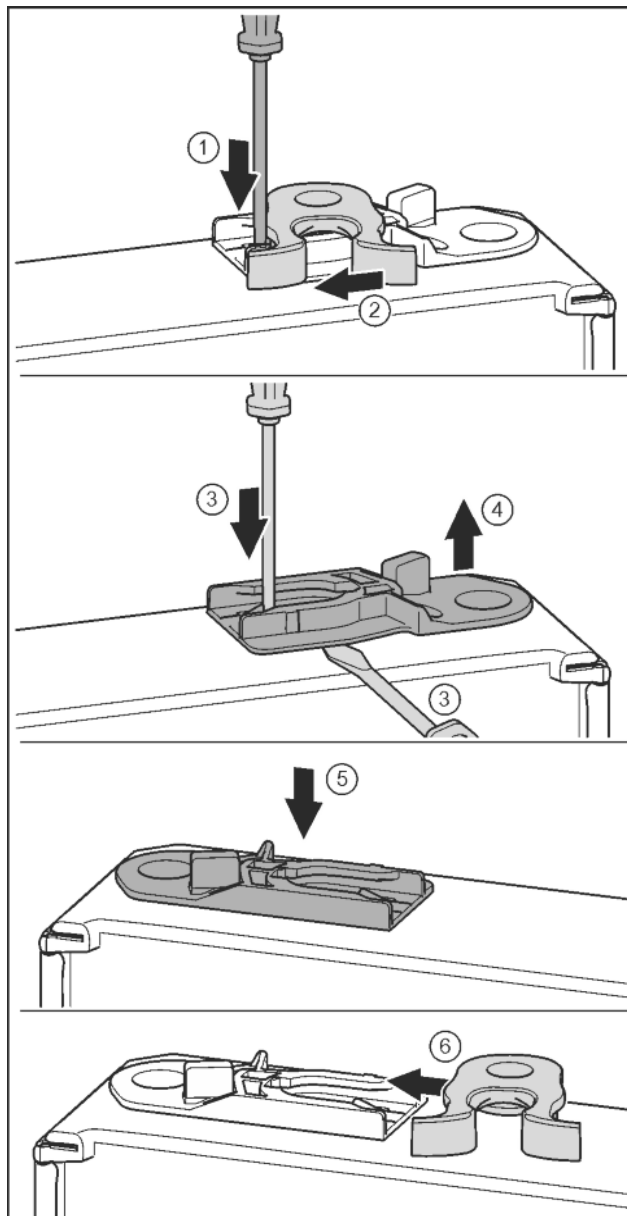

Fig. 18
- Push the tab downwards with a slotted screwdriver. Fig. 18 (1)
- Pull the door latch out of the guide. Fig. 18 (2)
- Pull out the guide bush: Press the tab with a slotted screwdriver and, at the same time, insert the slotted screwdriver under the guide bush. Fig. 18 (3, 4)
- Slide the guide bush included in the scope of supply to the other side of the housing. Fig. 18 (5)
- Push the door latch into the guide. Fig. 18 (6)